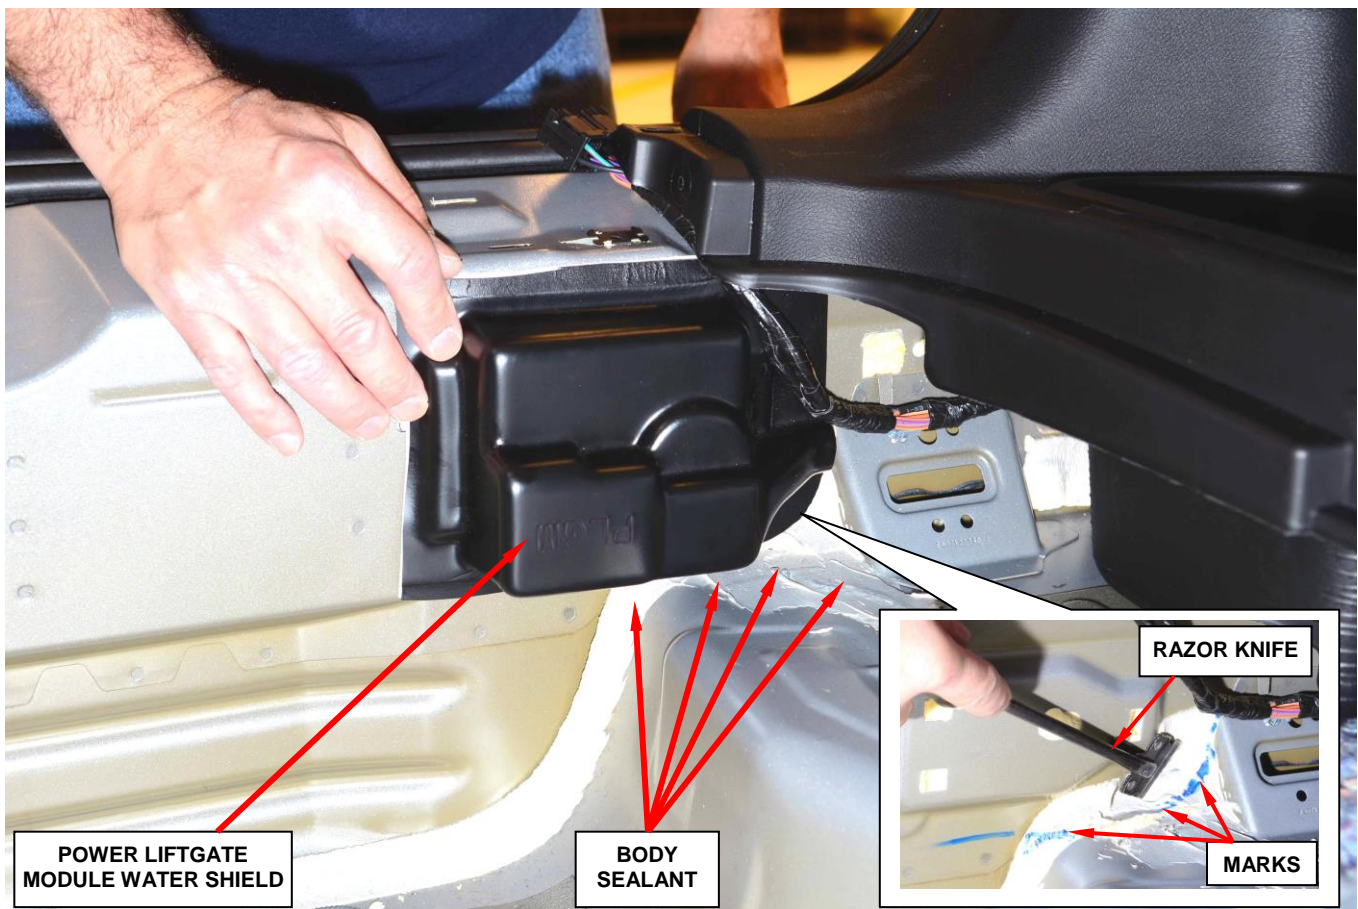

Figure 18 – Test Fit Water Shield and Trim Body Sealer as Required
3. Using scissors, trim the glue bead release paper so it is the same size as the water shield (Figure 18).
4. Test fit the PLG module water shield. Carefully mark the areas where the body sealer has to be removed (Figure 18).
5. Trim the body sealant with a razor knife as required to obtain a flat sealing surface for the water shield glue bead to adhere to on the PLG mounting surface (Figure 18).